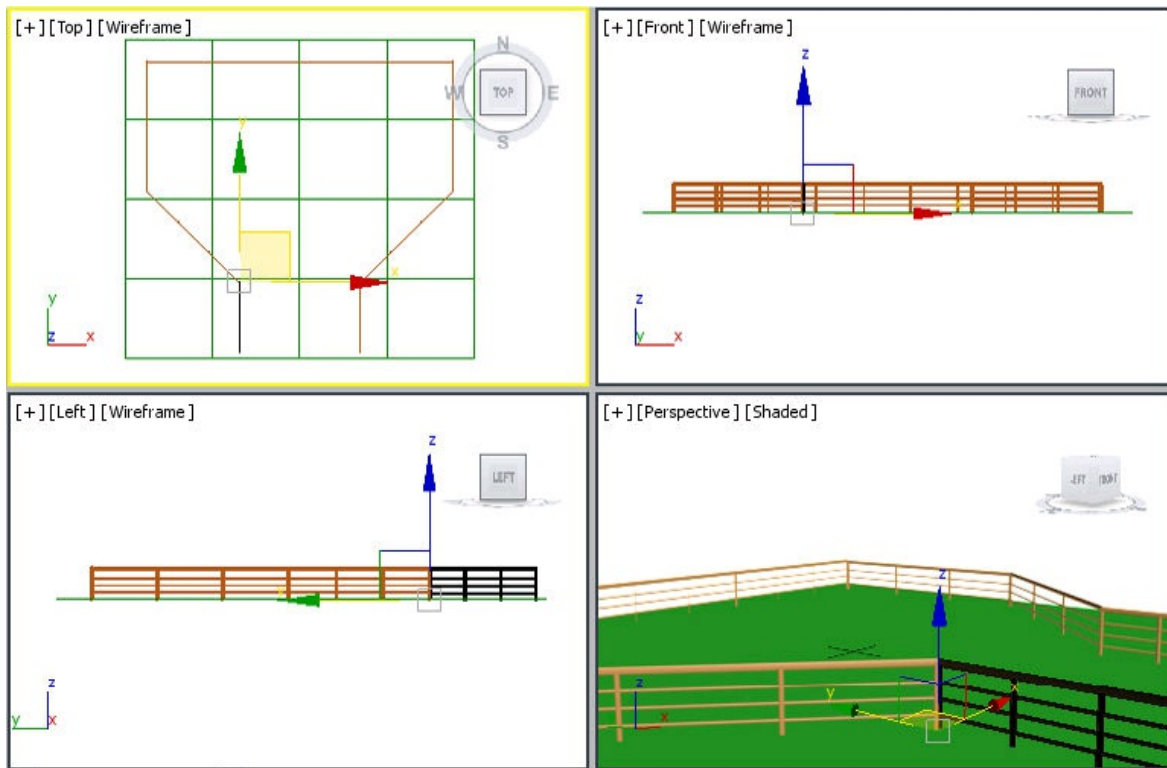

Figure 4-62 The railings geometry displayed in viewports
28. Make sure the Top viewport is activated and then choose the **Mirror** tool from the **Main Toolbar**; the **Mirror: Screen Coordinates** dialog box is displayed. In the **Mirror Axis** area of this dialog box, make sure the **X** radio button is selected. In the **Offset** spinner, set the value **-980**. In the **Clone Selection** area, select the **Copy** radio button and choose the **OK** button; the copy of all the railings created earlier is displayed and they are automatically named as *railing005*, *railing006*, and *railing007*, refer to Figure 4-62.
29. Adjust the view in the Perspective viewport using the tools in the viewport navigation controls, refer to Figure 4-62.